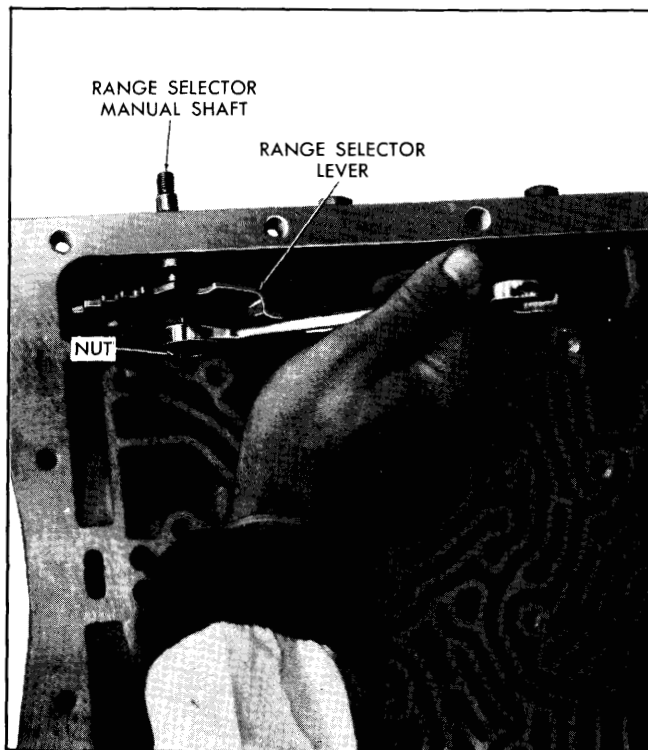

Fig. 7-26—Loosening Nut Holding Range Selector Lever to Manual Shaft
11. Loosen nut holding range selector inner lever to manual shaft. (Fig. 7-26) Pull on manual shaft and remove nut. Remove manual shaft and nut.